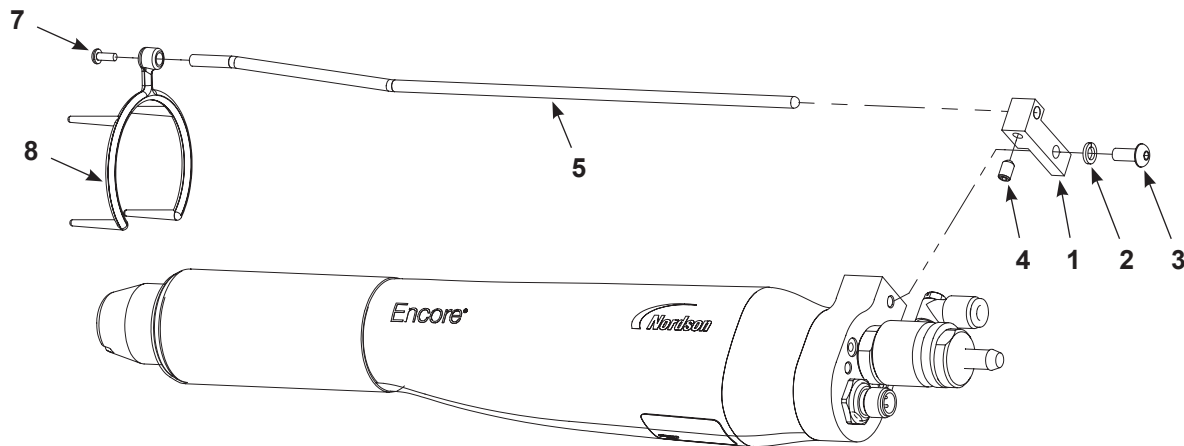

Figure 3-4 Spray Gun Connections – Conical Nozzle Shown
1. See Figure 3-4. Install the mounting block (1) on the spray gun with the M5 lock washer and screw (2, 3).
2. Insert the collector rod (5) into the block and secure it with the M5 x 8 set screw (4) included in the ion collector kit.
3. Slide the multi-point tip (6) onto the nozzle nut and attach it to the collector rod with the M3 screw (7).
3. See Figure 3-4. Loosen the set screw (4) and move the multi-point tip away from the front end of the spray gun.